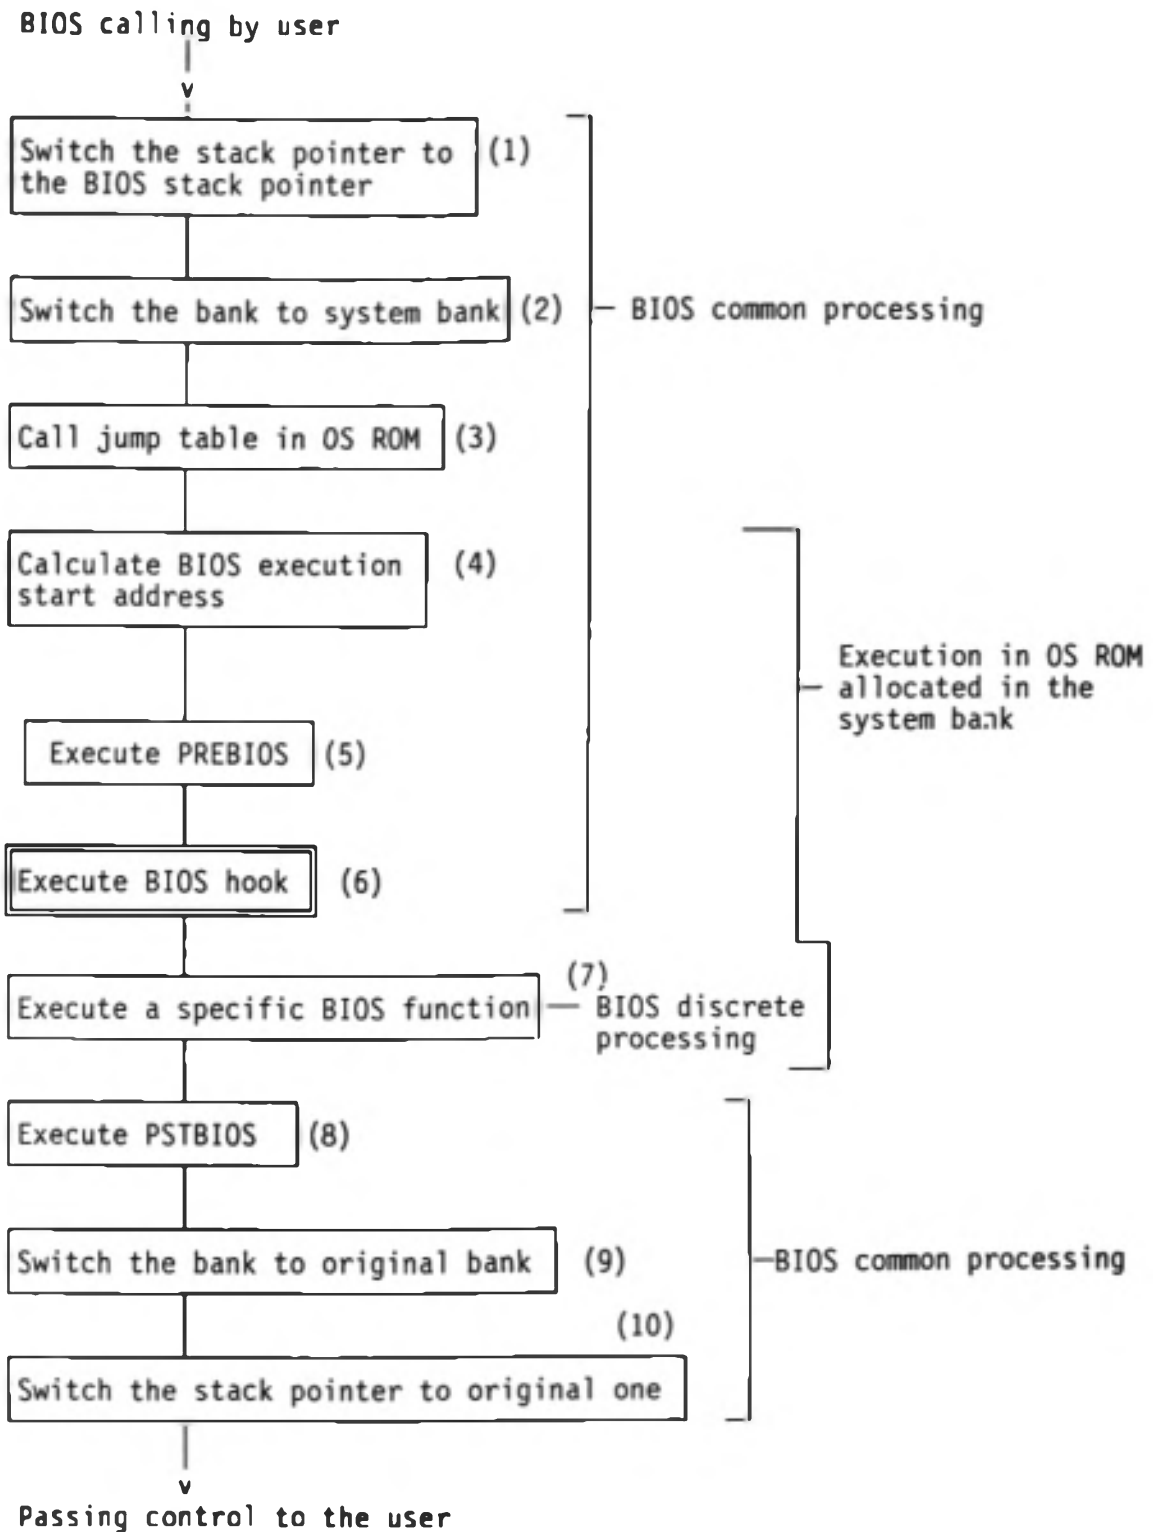

Fig 10.11 BIOS processing flowchart
Figure 10.11 is a system processing flowchart in which the BIOS hook is executed.
- (7) Switching the stack pointer to the original one and returning control
The stack pointer value saved in Step (1) is restored. Control is returned, following which subsequent BIOS processing is performed by OS. To suppress BIOS processing by OS, control is returned after popped two times (4 bytes). In this case, the sequence skips Step (7) and directly goes to Step (8) in the BIOS processing flowchart shown in Figure 10.11.